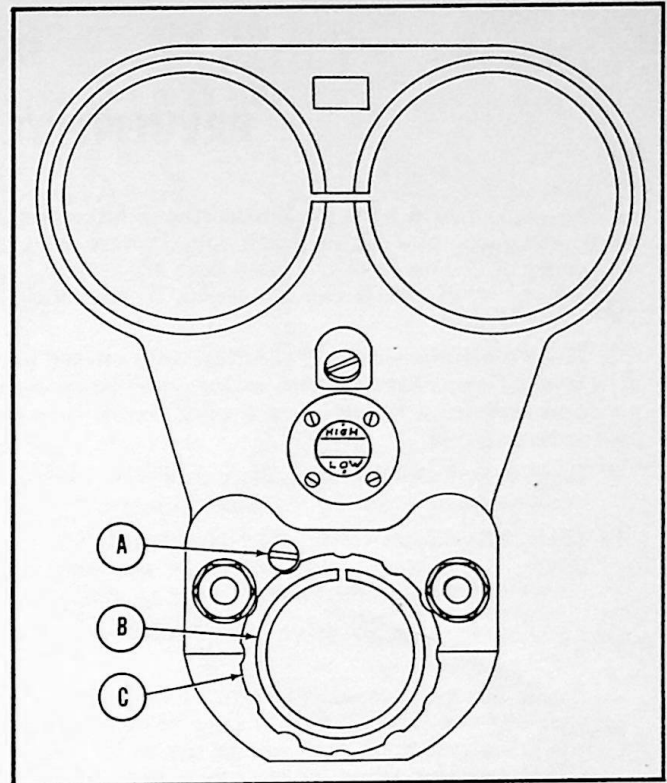

Fig. 5 Arbor Bearing Adjustment
3. Adjust the arbor support bushings to provide a running fit for arbor bearings. (See Fig. 5)
When it becomes necessary to adjust arbor bearings, follow these steps. (See Fig. 5.)